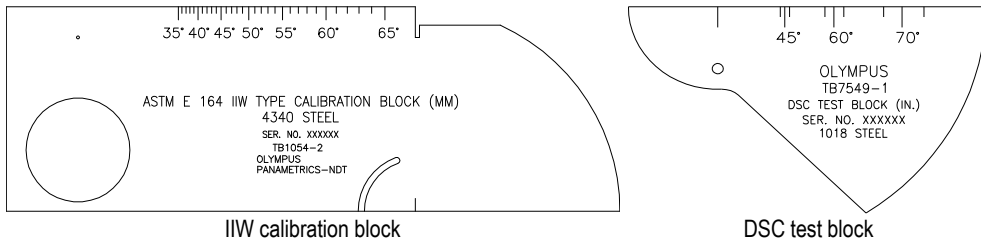

Figure 4-43 The IIW and DSC calibration blocks
- **K1-IIW** (see IIW calibration block in Figure 4-43 on page 270)
- **K2-DSC** (see DSC test block in Figure 4-43 on page 270)